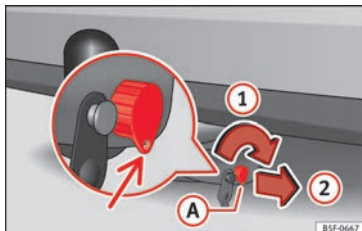
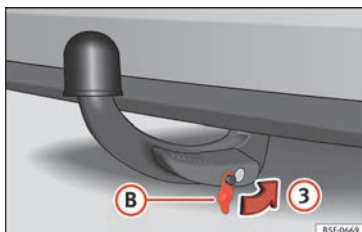

Fig. 230 Locking the lock
Fig. 231 Placing the cover over the lock.
- Turn key (A) in the direction of arrow (1) until the part of the key with the holes reaches the bottom position » Fig. 230.
- Remove the key in the direction of arrow (2).
- Place cover (B) in the lock in the direction of arrow (3) » Fig. 231 » 1.